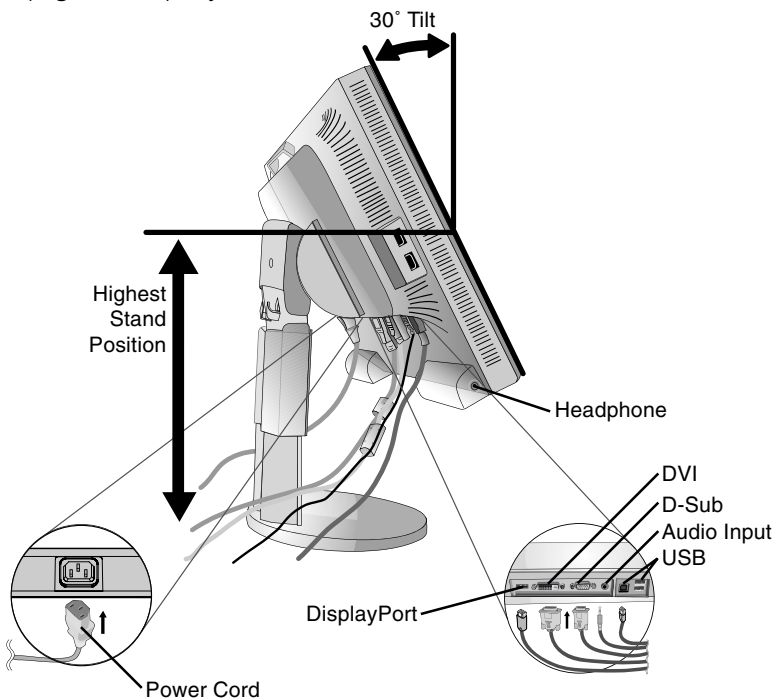
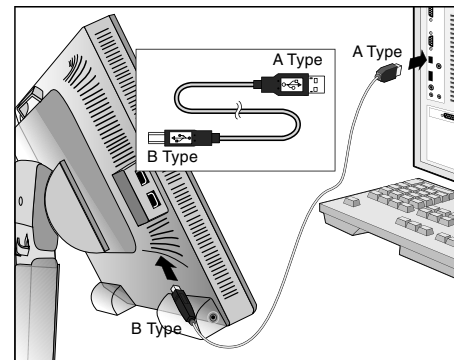

Figure C.1
Figure C.1a
3. Place hands on each side of the monitor to tilt the LCD panel 30-degree angle and lift up to the highest position (**Figure C.1**).
4. Connect all cables to the appropriate connectors (**Figure C.1**). Connect the Headphone (not included) to the appropriate connector at the left side of the monitor (**Figure C.1**). When using the USB cable, connect the B type connector to the USB upstream port on the right back side of the monitor and the A type connector to the downstream port on the computer (**Figure C.1a**). If you can use the cord from the USB device, use one of the downstream ports on the side of the monitor.